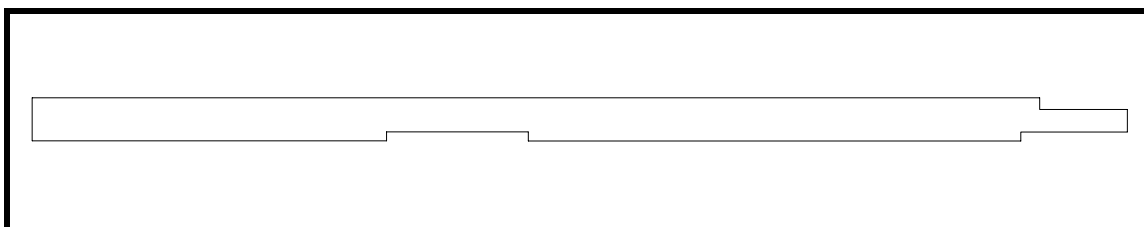

Figure 4
- ☐ Make the fuselage jig as shown in Drawing No. 321. See Figure 4. The aft end of the jig should be solid wood since the 50mm deep notch will not work. The aft top of the jig must be 50mm lower than the top of the rest of the jig.